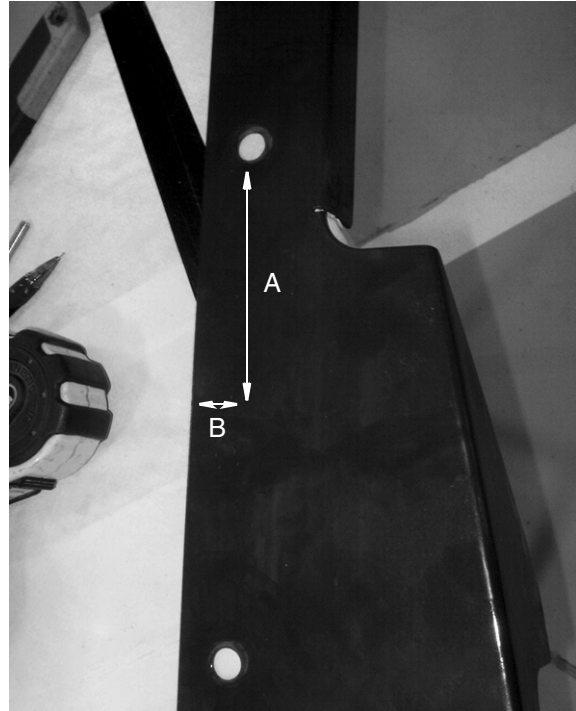

FIG. 47: HM300-5
2. **HM300-5 Models:** Drill a hole to install the remote fill to the panel. Center the hole between the existing two bolt holes (approximately 4.75 inches (120.6 mm) down from the top hole) and 1.0 inch (25.4 mm) in from the outer, flat edge (FIG. 47).